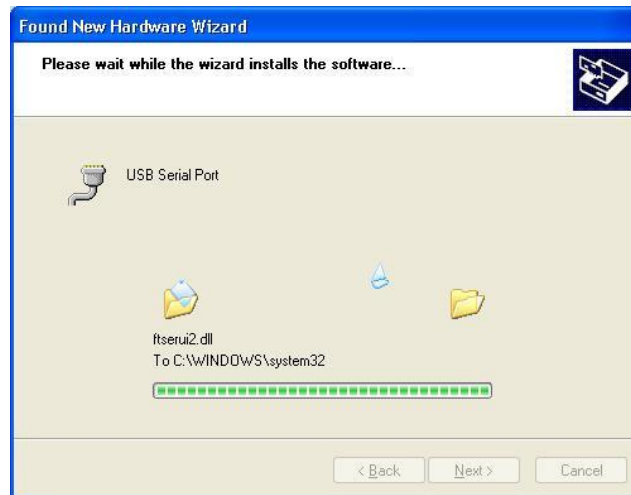

Figure 16
- The screen shown in Figure 16 will be displayed as Windows XP copies the required driver files.